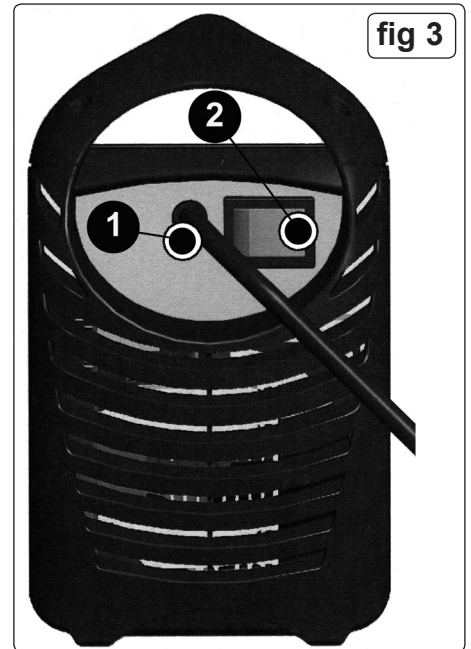

fig 3
3.2 REAR PANEL LAYOUT (refer to Figure 3).